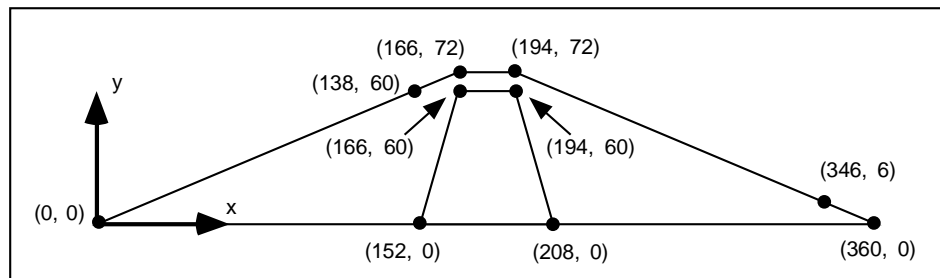

Figure 17.2 Coordinate System.
Before we construct the mesh we must first establish a coordinate system. We will use a coordinate system with the origin at the lower left corner of the dam as shown in Figure 17.2.
2. Using the coordinate information in the lower left hand window to help you position the cursor, create a node at each of the following coordinates (the coordinates shown in Figure 17.2):